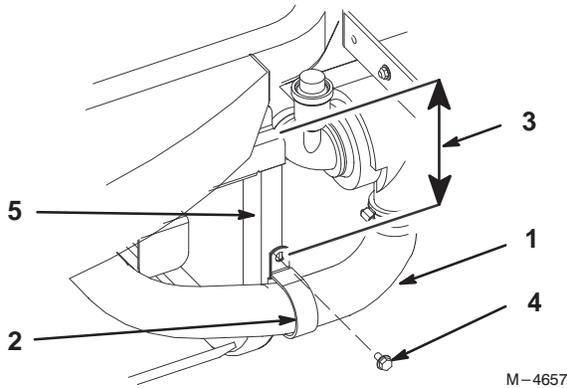

Figure 14
4. Locate position for R-clamp by measuring down 6" from top of tube and centered on tube. Mark center of hole in R-clamp (Fig. 14).
6. Install R-clamp around air intake hose (Fig. 14).
7. Install screw into R-clamp and tube (Fig. 14).